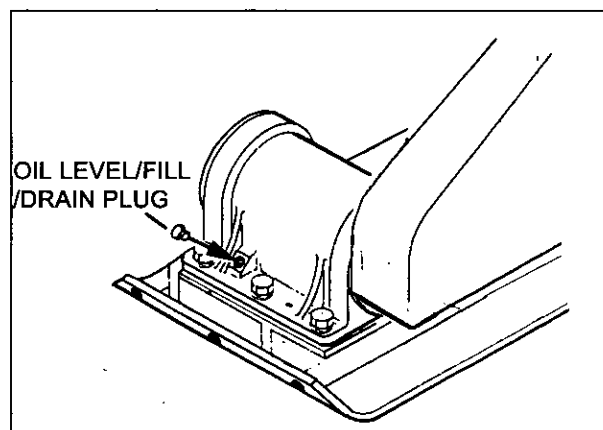

Figure 12-2 - Eccentric Housing Oil Level.
5. The oil level is correct when it reaches the bottom of the threads of the oil level plug hole as shown in Figure 12-2.